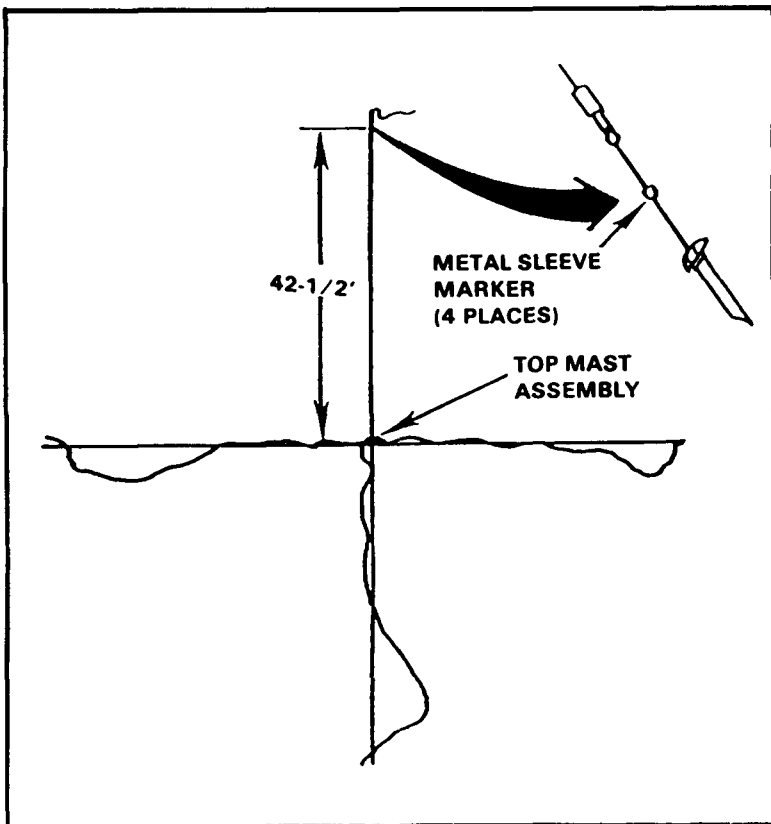

Figure 3-20. Guy stake installation.
- d. Measure anchor positions using the sleeve cable markers as guides and install guy stakes as shown in Figure 3-20. Leave slack in the elements lying on the ground.